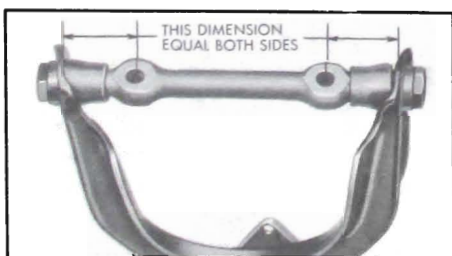

Figure 7-13—Upper Control Arm Shaft Position
5. Rotate shaft to make distance between shaft bolt holes and arm equal both sides as nearly as possible. See Figure 7-13.